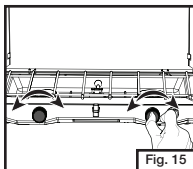

Fig. 15
- Adjust flame with burner valve. (Fig. 15)